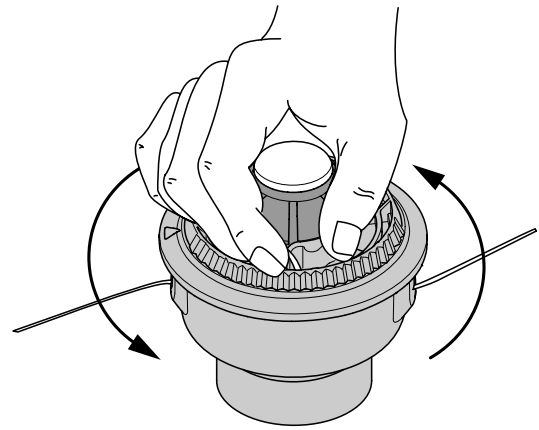

Fig. 17
8. Hold the outer spool. Wind the inner reel counterclockwise until approximately four (4) inches (102 mm.) of line remain (Fig. 17).